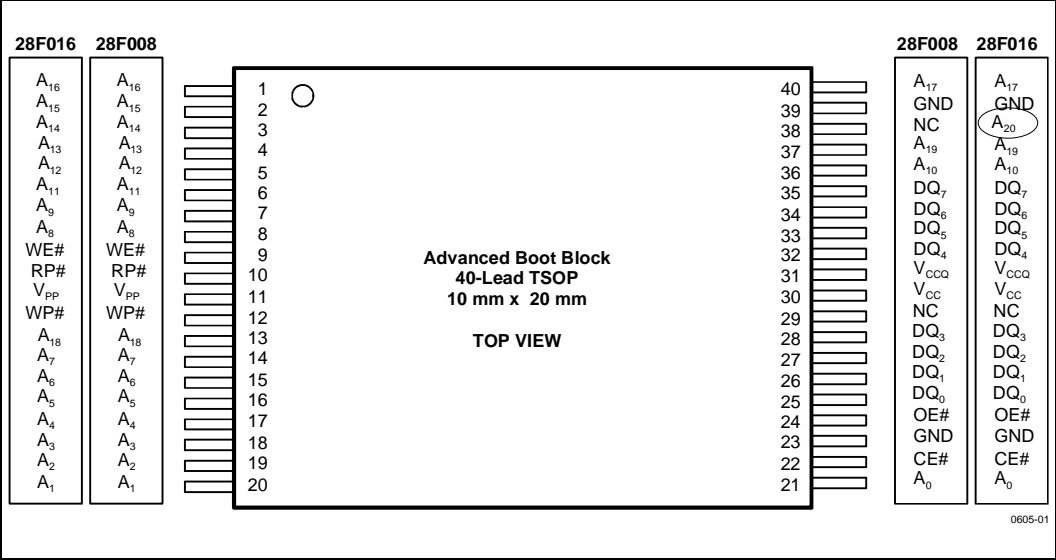
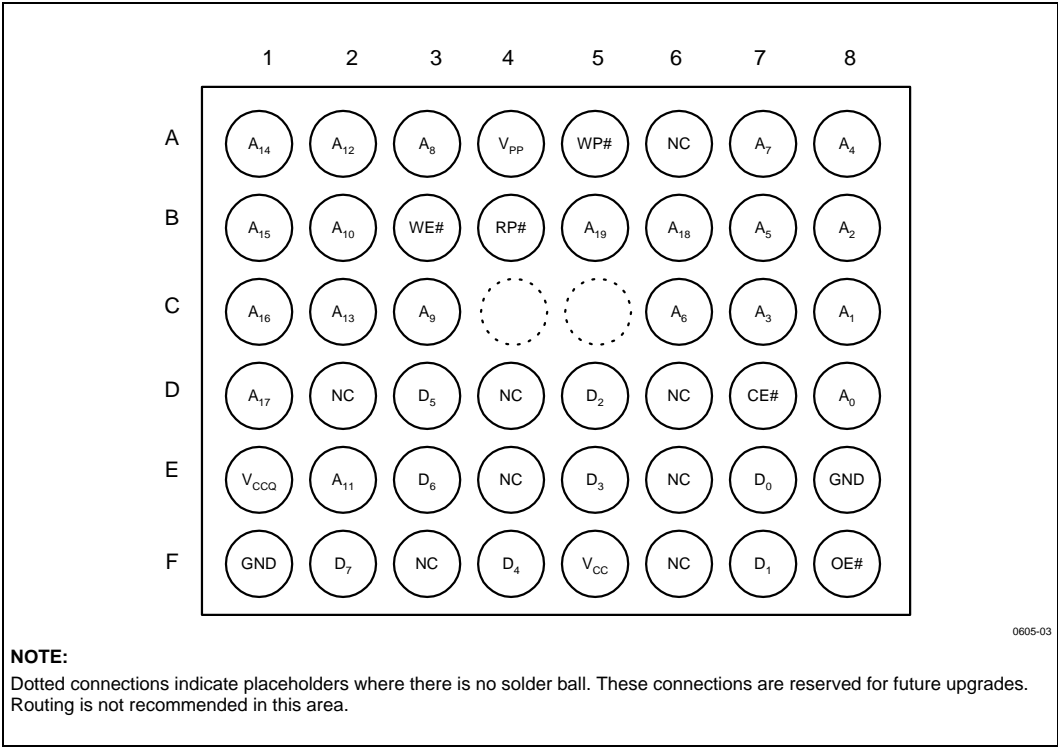

Figure 1. 40-Lead TSOP Package
Figure 2. 8-Mbit 48-Ball μBGA* Chip Size Package
- V_{CCQ} input for 1.8V–2.2V on all I/Os. See Figures 1–3 for pinout diagrams and V_{CCQ} location
The Smart 3 Advanced Boot Block flash memory is available in 40-lead TSOP (see Figure 1) and 48-ball μ BGA packages (see Figures 2 and 3). In Figure 1, pin changes from one density to the next are circled. Both packages, 40-lead TSOP and 48-ball μ BGA package, are 8-bits wide and fully upgradeable across product densities (from 8 Mb to 16 Mb).